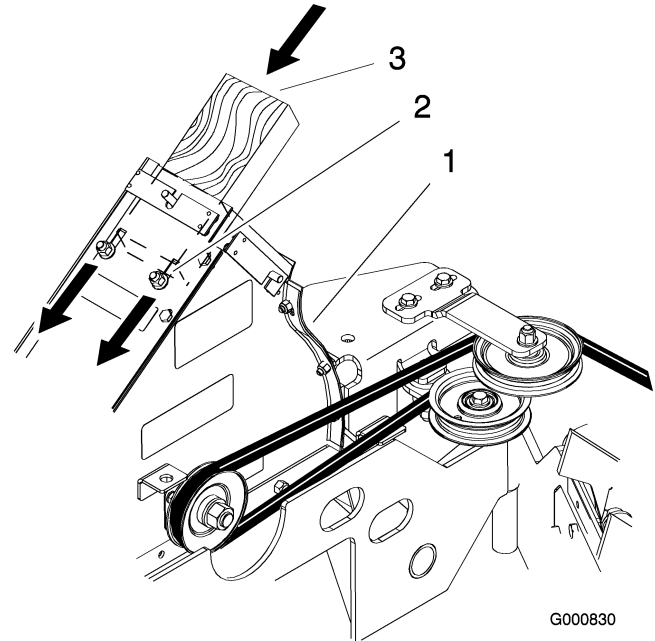

Figure 3
- Using a block of wood, push the liner down toward the front of blower, until the blower liner tightly conforms to the inside of the blower (Figure 3). This will provide clearance between the impeller and the liner.
- While holding the liner, tighten the 2 top bolts in the liner and the blower (Figure 3).
- Rotate the blower pulley to verify that the blower fan does not hit the liner (Figure 3). Adjust the liner if necessary.